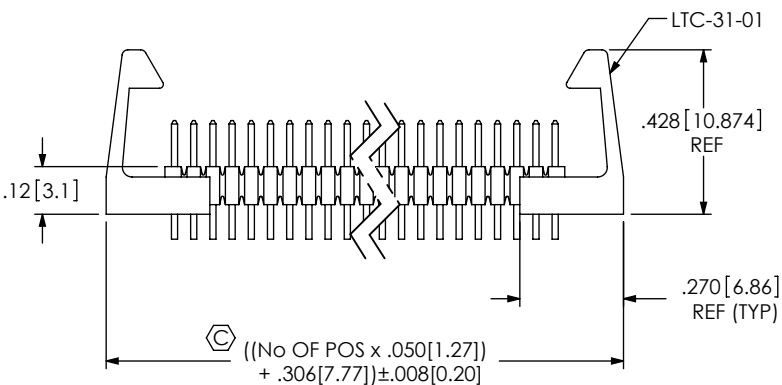

FIG 8
-LC: LOCKING CLIP: (SEE FIG 8, SHT 3)